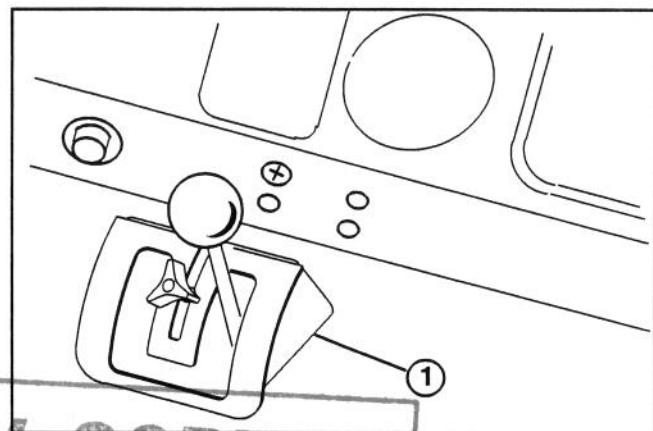

Figure 3
5. Align mounting holes in back of hand throttle assembly with (3) holes in dash. Large hole in back of assembly fits over remaining screw head in dash panel.
6. Mount hand throttle assembly to dash and pedal support with (3) 1/4-20 x 3/4" lg. capscrews and flange locknuts supplied in kit (Fig. 3).